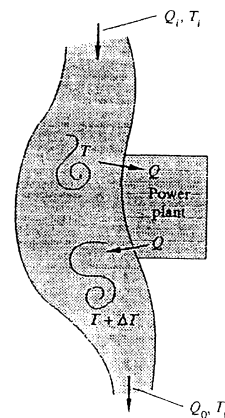

Fig. P3.127
3.127 A power plant on a river, as in Fig. P3.127, must eliminate 55 MW of waste heat to the river. The river conditions upstream are $Q_1 = 2.5$ m³/s and $T_1 = 18^\circ\text{C}$. The river is 45 m wide and 2.7 m deep. If heat losses to the atmosphere and ground are negligible, estimate the downstream river conditions (Q_0 , T_0).